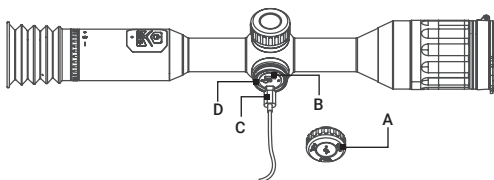

FIGURE 2-1. USB INTERFACE
1. Unscrew the USB interface cover (Figure 2-1, A).
2. Connect the power adapter to the scope's interface port (B) using the USB cable (C).
3. Plug in the power adapter and charge the device. Icon  in the FOV of scope indicates the charging process. The color LED (D) near USB port indicates the charging status.